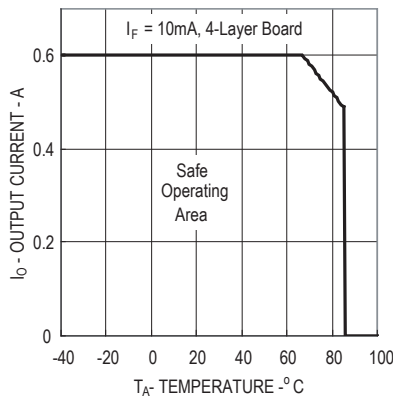

Figure 1. Maximum Output Current Rating vs Ambient Temperature (ASSR-1410-003E)
- For derating, refer to Figure 1, 2, 3 and 4.
Derating curves are shown in Figures 1, 2, 3 and 4, specifying the maximum output current allowable for a given ambient temperature. The maximum allowable output current and power dissipation are related by the expression $R_{ss}=P_o(max)/(I_o(max))^2$ from which R_{ss} can be calculated. Staying within the safe area assures that the steady state MOSFET junction temperature remains less than $125^{\circ}C$.